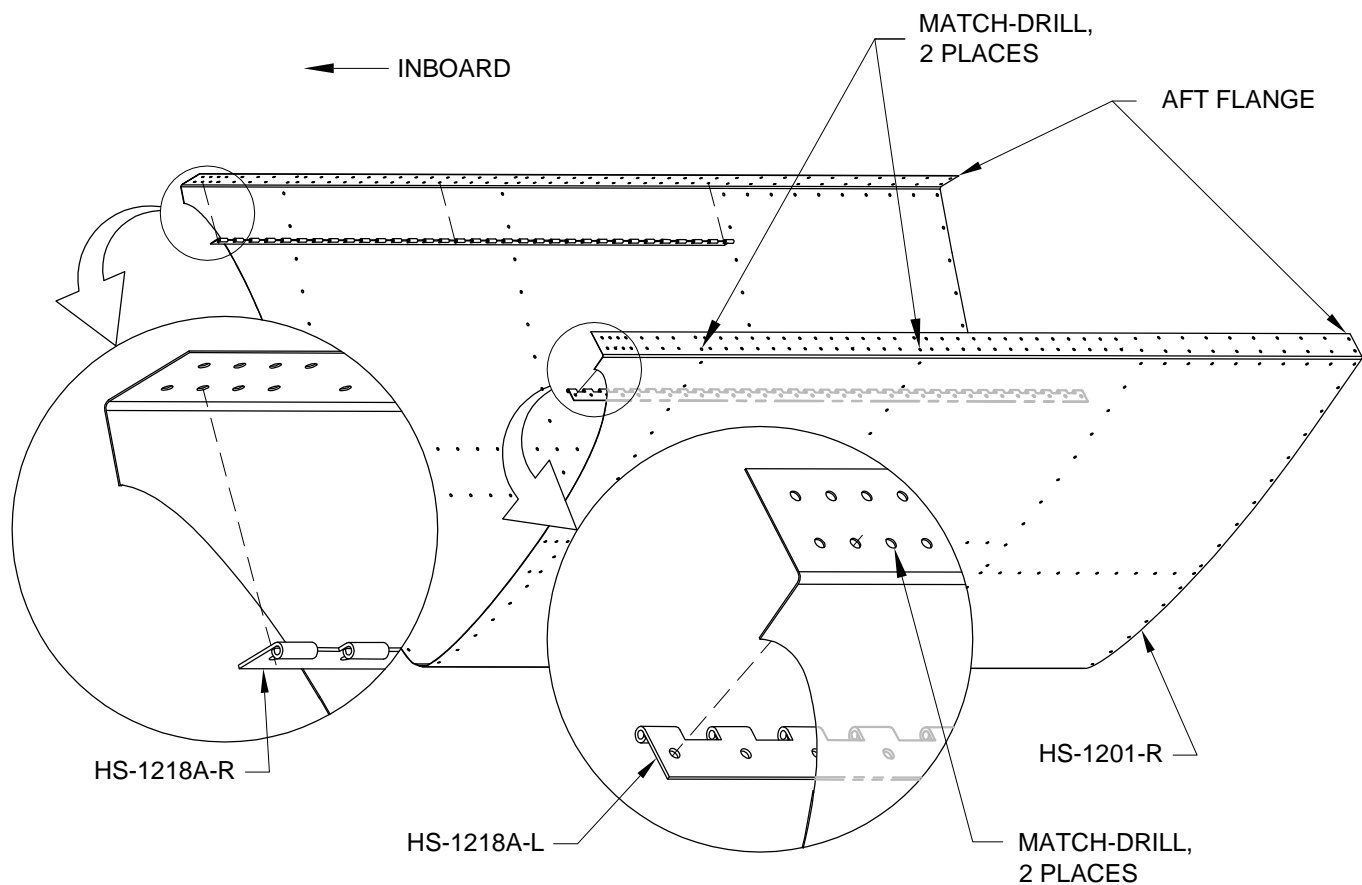

FIGURE 1:
Step 2: Cleco the HS-1218A-L & -R Aft Hinge to the HS-1201-R Main Skin. Orient the hinges flush to the inside surface of the aft flange aligned to the hole pattern nearest to the bend of the aft flange as shown in Figure 1.